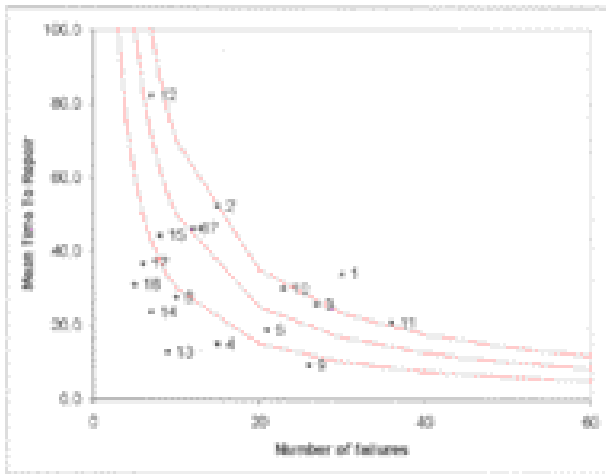
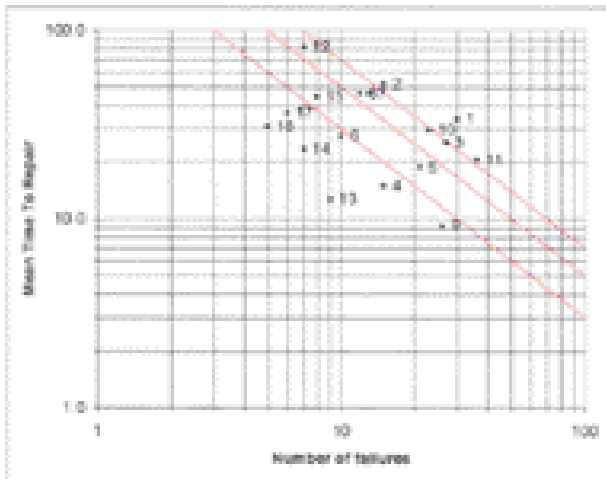

Figure 2: X-Y dispersion plot of mean repair times versus number of failures
Figure 3: Log Scatterplot of mean repair times versus number of failures
Figure 2 shows an alternative means of presenting the failure data listed in Table 1. An x-y scatterplot is used to plot mean downtime against the number of unplanned failures for each failure code. Curves of constant downtime are represented by a family of hyperbolae as shown. It can be seen that the failures that consume most downtime are those associated with failure codes 1, 2 and 11. Thus the order of priority observed in the Pareto analysis is preserved, however a clearer picture is available as to which factor - failure frequency or MTTR - is dominant.
A disadvantage of Figure 2 is that the curves of constant downtime are hyperbolae and can be difficult to plot. A solution to this is to take the logarithm of equations (1) and (2). Thus:
where \log refers to \log_{10} . If an x-y graph is prepared of $\log(n_i)$ against $\log(\text{MTTR}_i)$, the curves of constant downtime now appear as straight lines with uniform negative gradient (see Figure 3). These logarithmic (or "log") scatterplots can be very simply prepared using commercial spreadsheet software such as Excel™ by positioning the mouse over the axes of the x-y graph such as that shown in Figure 2 and then using the right-hand mouse button to select logarithmic scales for the axes. Log scatterplots simplify the identification of those failures which contribute most to total equipment downtime, whilst continuing to permit the visualisation of the influence of failure frequency and MTTR.